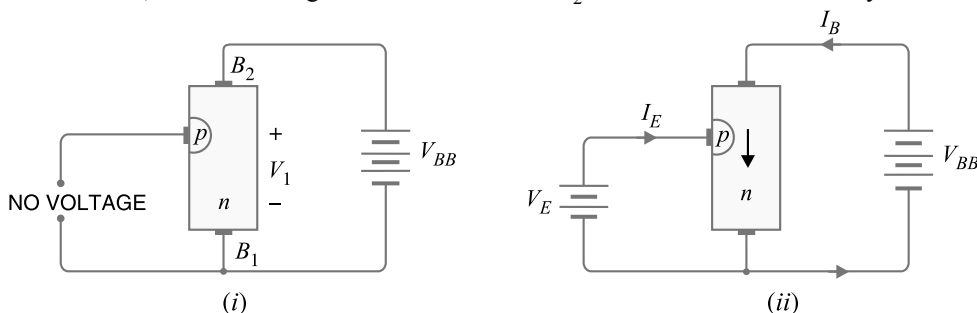

Fig. 19.26
**Operation.** Fig. 19.26 shows the basic circuit operation of a unijunction transistor. The device has normally  $B_2$  positive *w.r.t.*  $B_1$ .
(i) If voltage  $V_{BB}$  is applied between  $B_2$  and  $B_1$  with emitter open [See Fig. 19.26 (i)], a voltage gradient is established along the *n*-type bar. Since the emitter is located nearer to  $B_2$ , more than \*\*half of  $V_{BB}$  appears between the emitter and  $B_1$ . The voltage  $V_1$  between emitter and  $B_1$  establishes a reverse bias on the *pn* junction and the emitter current is cut-off. Of course, a small leakage current flows from  $B_2$  to emitter due to minority carriers.
(ii) If a positive voltage is applied at the emitter [See Fig. 19.26 (ii)], the *pn* junction will remain reverse biased so long as the input voltage is less than  $V_1$ . If the input voltage to the emitter exceeds  $V_1$ , the *pn* junction becomes \*\*\*forward biased. Under these conditions, holes are injected from *p*-type material into the *n*-type bar. These holes are repelled by positive  $B_2$  terminal and they are attracted towards  $B_1$  terminal of the bar. This accumulation of holes in the emitter to  $B_1$  region results in the decrease of resistance in this section of the bar. The result is that internal voltage drop from emitter to  $B_1$  is decreased and hence